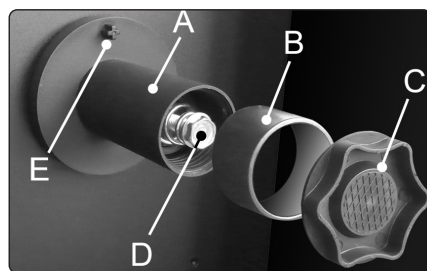

fig.7
- 4.12.3. Tighten the clutch nut located in the centre of the wire spool holder with a spanner (fig.7-D) and test the machine as above until the wire stops over running.